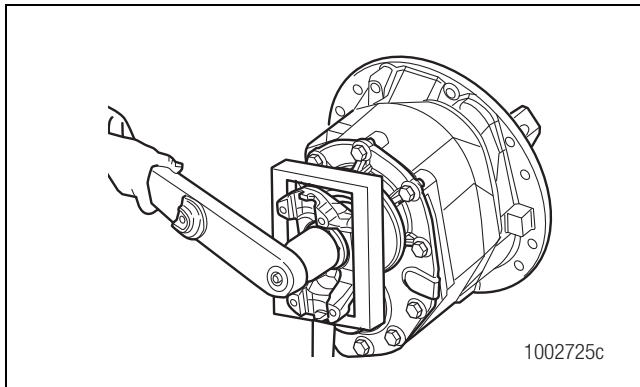

Figure 14
- Use the correct tool to hold the input yoke in place. Remove the input yoke nut and washer. Figure 14.